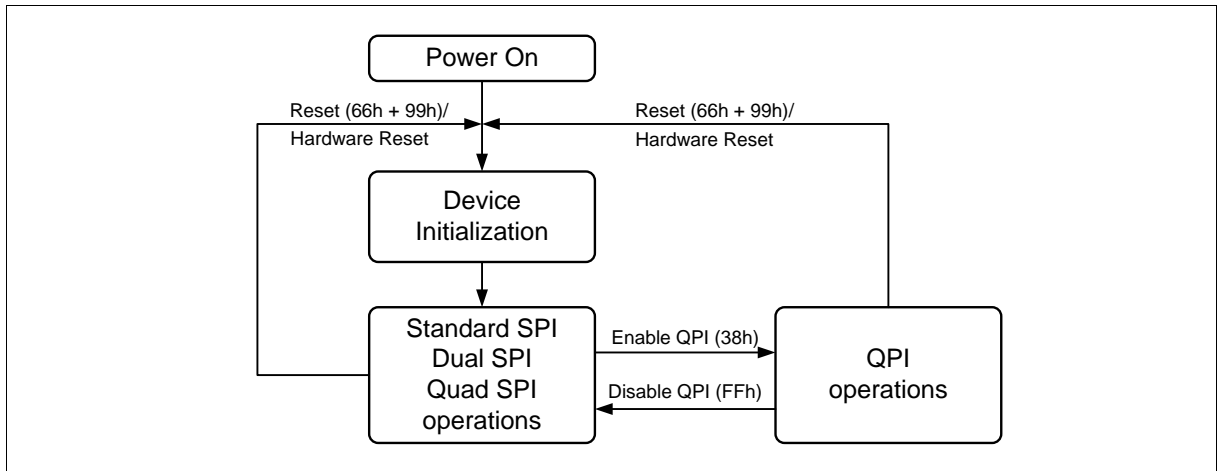

Figure 5 FM25Q128A Serial Flash Memory Operation Diagram
The FM25Q128A supports Quad Peripheral Interface (QPI) operations only when the device is switched from Standard/Dual/Quad SPI mode to QPI mode using the “Enable QPI (38h)” instruction. The typical SPI protocol requires that the byte-long instruction code being shifted into the device only via DI pin in eight serial clocks. The QPI mode utilizes all four DQ pins to input the instruction code, thus only two serial clocks are required. This can significantly reduce the SPI instruction overhead and improve system performance in an XIP environment. Standard/Dual/Quad SPI mode and QPI mode are exclusive. Only one mode can be active at any given time. “Enable QPI (38h)” and “Disable QPI (FFh)” instructions are used to switch between these two modes. Upon power-up or after a software reset using “Reset (99h)” instruction or hardware reset, the default state of the device is Standard/Dual/Quad SPI mode. To enable QPI mode, the non-volatile Quad Enable bit (QE) in Status Register-2 is required to be set. When using QPI instructions, the DI and DO pins become bidirectional DQ0 and DQ1, and the WP# and HOLD# pins become DQ2 and DQ3 respectively. See Figure 5 for the device operation modes.